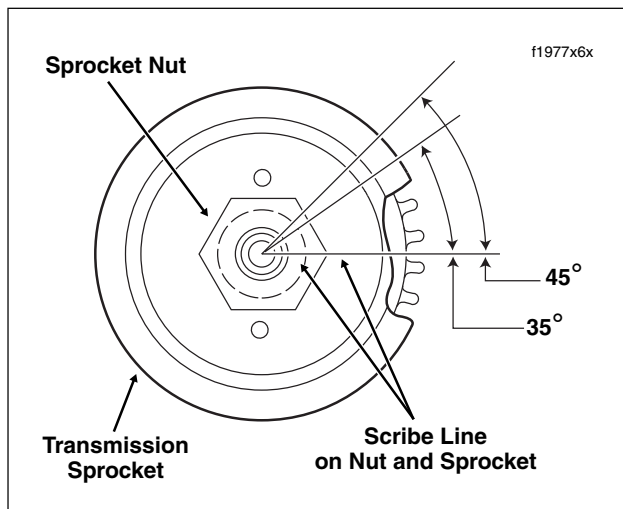

Figure 6-22. Tighten/Secure Sprocket Nut
- Scribe a straight line on the transmission sprocket nut continuing the line over onto the transmission sprocket as shown in Figure 6-22. Tighten the transmission sprocket nut an additional 35° to 40°.
7. If holes in lockplate do not align with those in sprocket, tighten sprocket nut as necessary (up to the 45° maximum) until sprocket and lockplate holes are in alignment. See Figure 6-22.